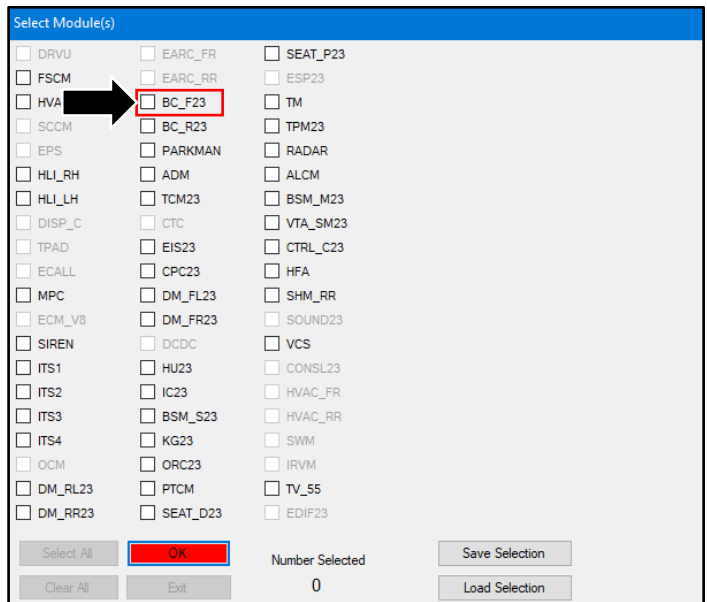

Figure 2
- 5. Select the "BC_F23" module then click the "OK" button (refer to Figure 2).